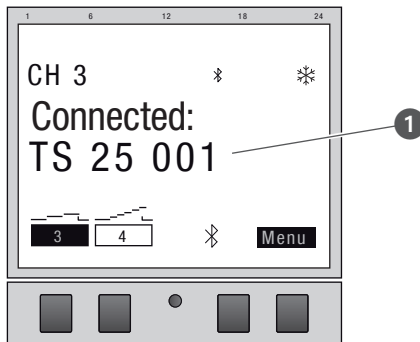

Fig. 24: Channel extension is connected to the DIN-rail timer
- The channel extension displays the name of the connected device if there is an active connection (Fig. 24/①).